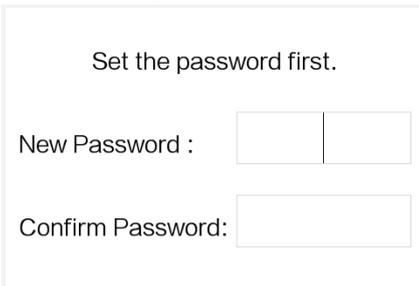
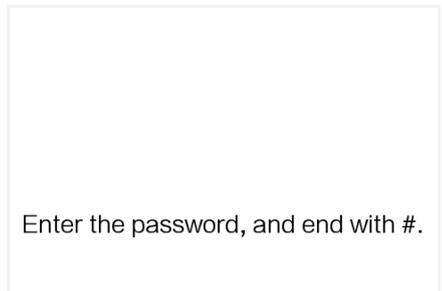

Figure 7-14 Card Activation Password Settings Interface
Figure 7-15 Card Activation Password Inputting Interface
1. On the card issuing interface, press the numeric key **2** to enter the card activation password settings interface (Figure 7-14) or the card activation password inputting interface (Figure 7-15).